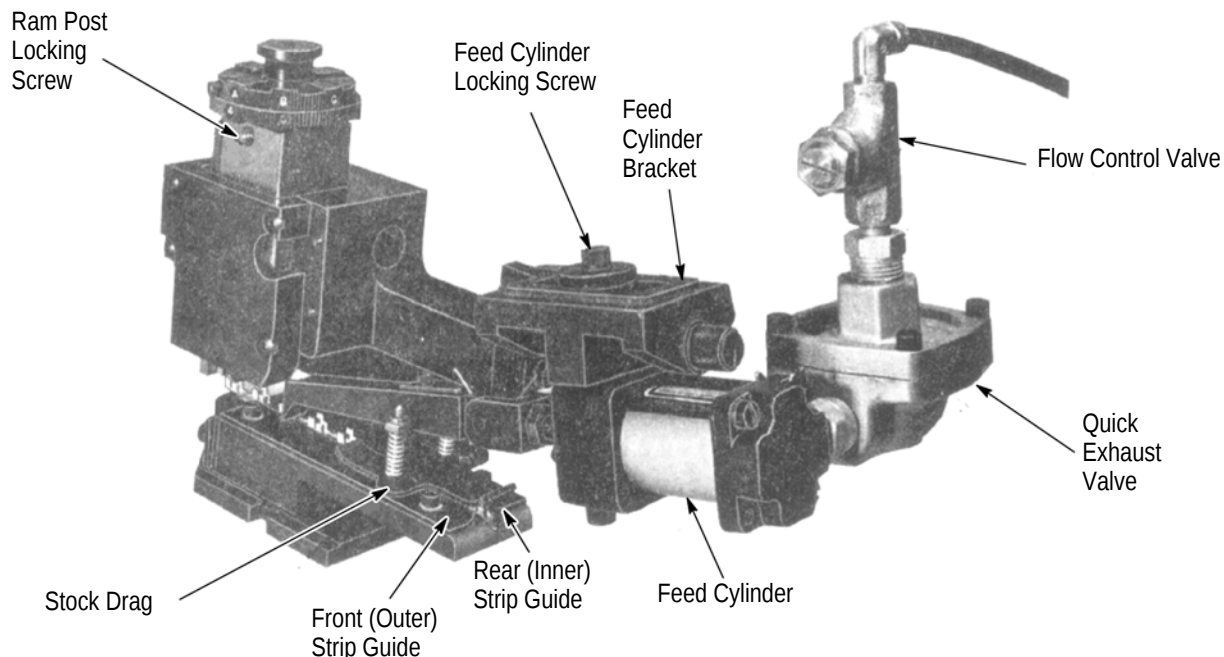
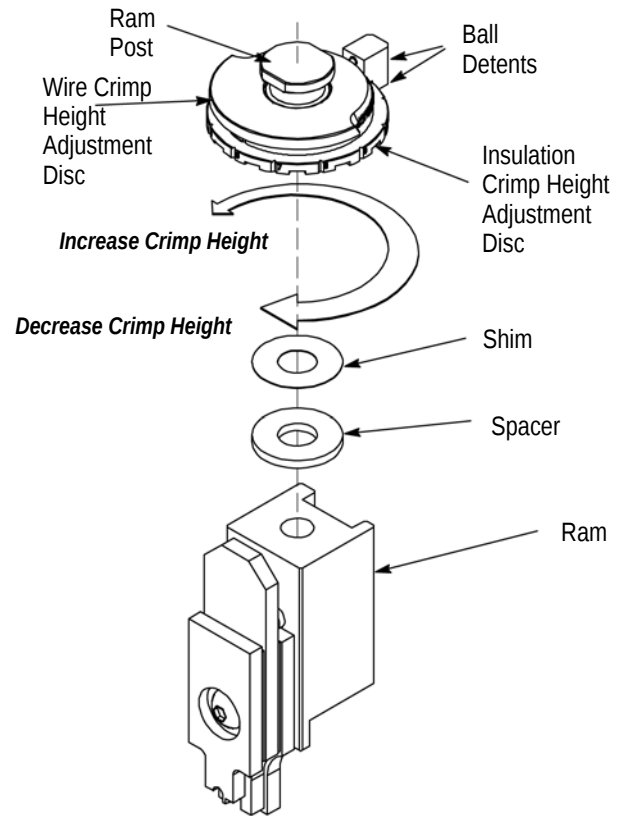

Figure 6
Figure 7
- 1) Loosen slightly the feed cylinder locking screw on top of feed cylinder bracket (see Figure 6).
Fine Adjust Assembly 879103-[] is factory installed and should require no further adjustment. If the assembly must be removed from the ram, be sure to loosen ram post locking set screw (Figure 6). The ram post can then be removed. Upon re-assembly, be sure that the two ball detents on the fine adjust assembly are aligned with the centerline of the insulation crimper and oriented relative to the front of the tooling (as shown in Figure 7). Ensure that the correct spacer (as per the appropriate applicator log) is re-assembled. Be sure that the ram post and ram post locking set screw are tight before re-installing the applicator into the appropriate terminating unit.